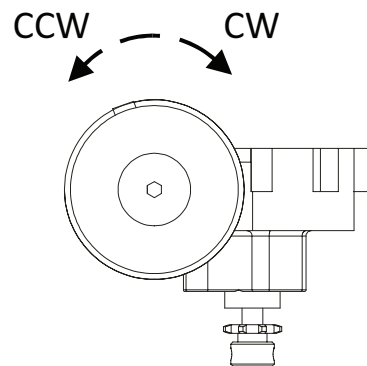
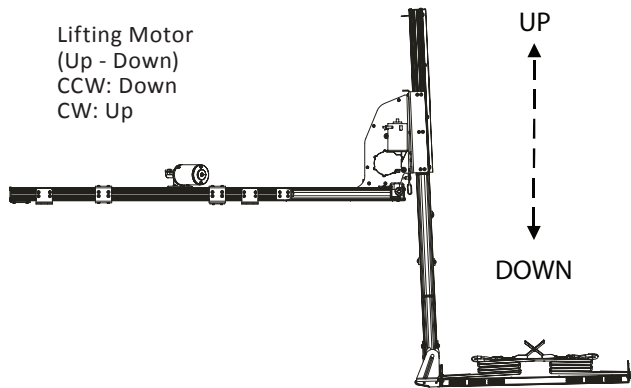
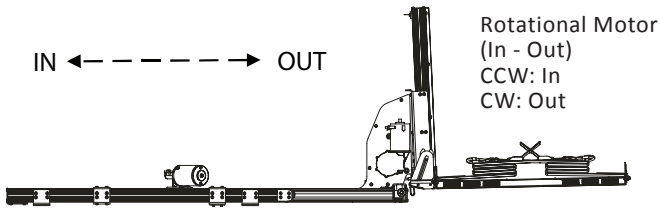

Figure 6-3
Figure 6-4
Figure 6-5
Use a 1/4" socket and rotate the hex either Clockwise (CW) or Counter Clockwise (CCW). See Figure 6-3. For Lifting Motor, see Figure 6-4. For Rotational Motor, see Figure 6-5.
Before retracting the lift into the vehicle, be sure that the lift is fully compressed in the UP position. Not doing so may result in damage to the vehicle and/or lift. See Figure 6-4.